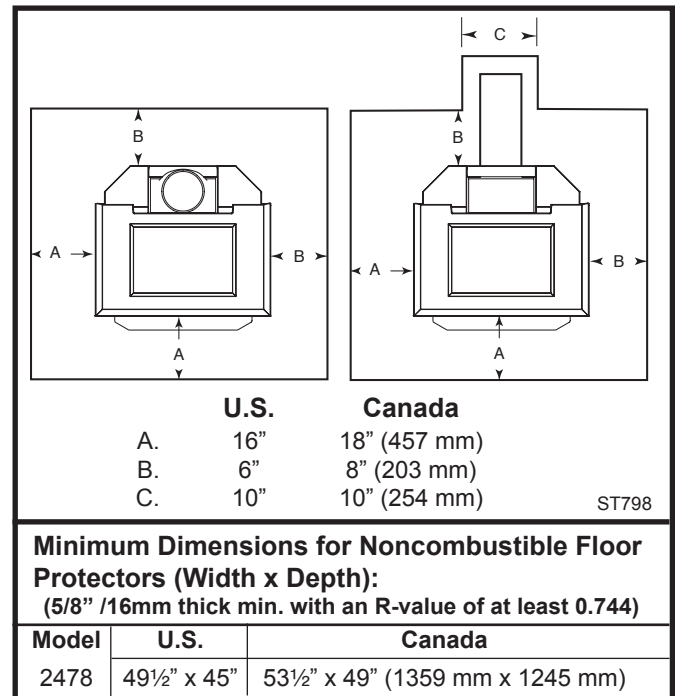

Fig. 12 Be sure to follow exactly the minimum floor protection requirements on all four sides of the stove.
U.S. Installations: The floor protector is required under the stove and must extend at least 16" from the front and left (loading door) side of the stove, and at least 6" from the right side and rear. (Fig. 12)
In Canada: a noncombustible floor protector is required under the heater also. The floor protector must extend 18" (457mm) from the front and left (loading door) side of the stove, and at least 8" (203mm) from the right side and rear. (Fig. 12)
When choosing an installation utilizing the side loading door located on the left side of the stove, follow the minimum dimensions given in the Stove and Chimney Connector Chart on Page 13 and the Minimum Dimensions for Noncombustible Floor Protectors given on Page 9, Figure 12.